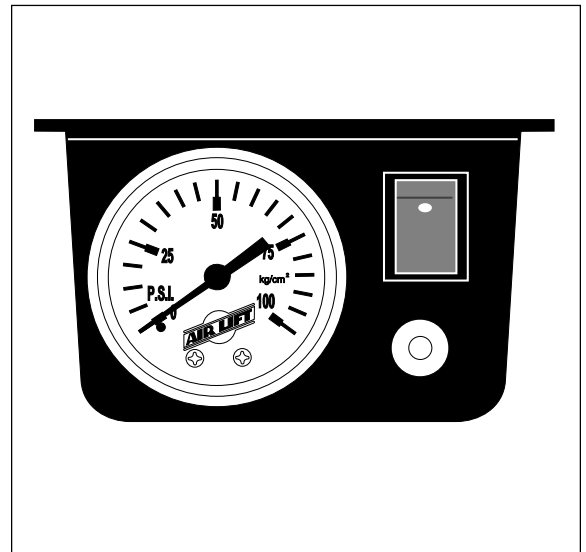

Figure 6
2. Use a standard tube cutter, a razor blade, or very sharp knife to cut the air line between the air spring and the inflation valve. A clean square cut will ensure against leaks. Install a tee. Repeat this step for other side (Figure 6).